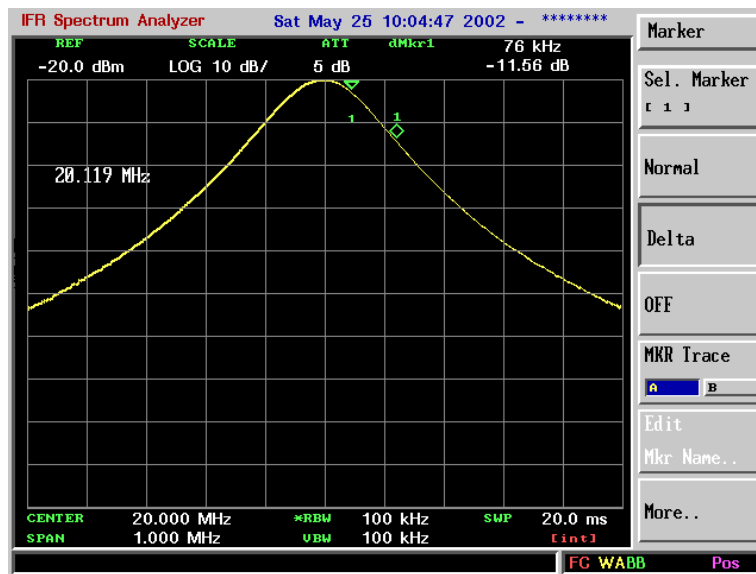

Figure 2-26. Determining the Offset
9. Determine the offset from the signal peak to the desired point on the filter skirt by moving the delta marker to the midpoint. Press **75 kHz** to move the delta marker to the midpoint. See Figure 2-26.